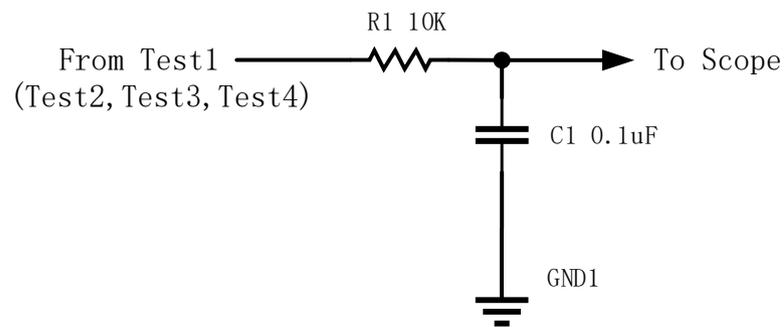
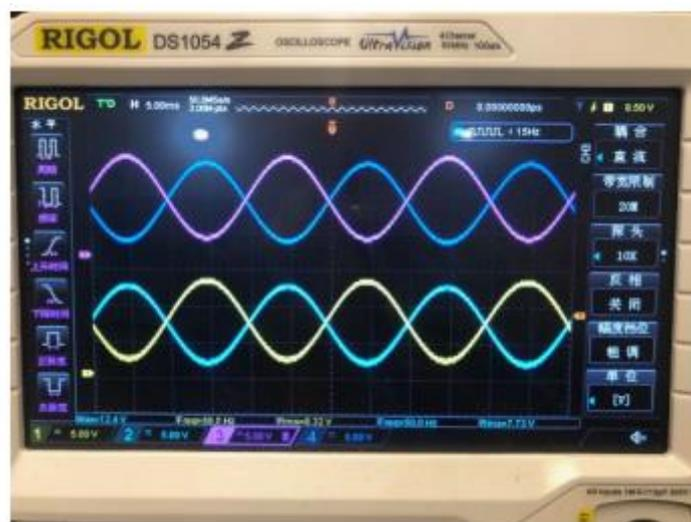

Figure 4-2a. Four RC filter for Test1,Test2,Test3 and Test4
Figure 4-2b. Output waveform of Test1,Test2,Test3 and Test4
Step4: Four RC filter of 10K and 0.1uF are connected to the outputs of TEST1,TEST2,TEST3 and TEST4 respectively. The filter circuit is shown in Figure 4-2a. Connect an 4-channels oscilloscope to the output of four RC filters to observe waveform. When TEST1,TEST2,TEST3 and TEST4 are connected to RC filter, it will output waveform shown as Figure 4-2b,CH1 to TEST1 RC filter, CH2 to TEST2 RC filter, CH3 to TEST3 RC filter, CH4 to TEST4 RC filter.